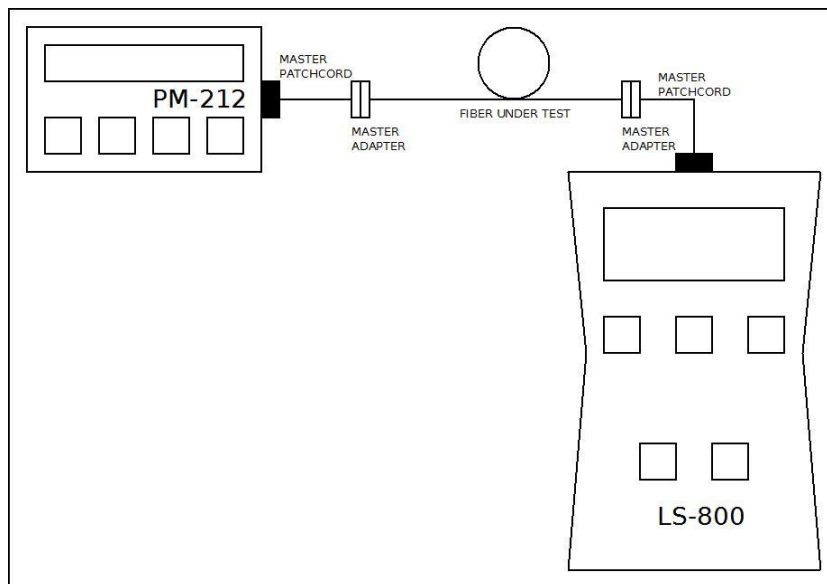

Figure 6: Measurement Loss by method 6
3. Connect the trace to be measured between the master cords. An extra master adaptor is required (fig.6).